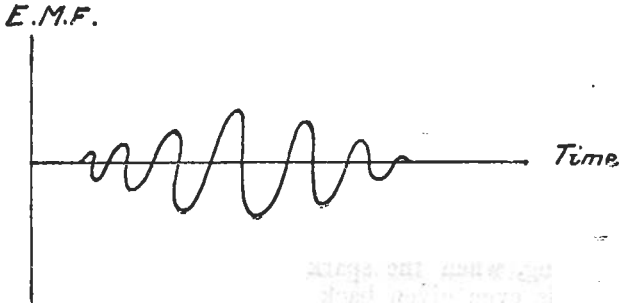

FIG. 37.
- (b) The wave is not damped as in "Plain," the "shape" being more that shown in Fig. 37.